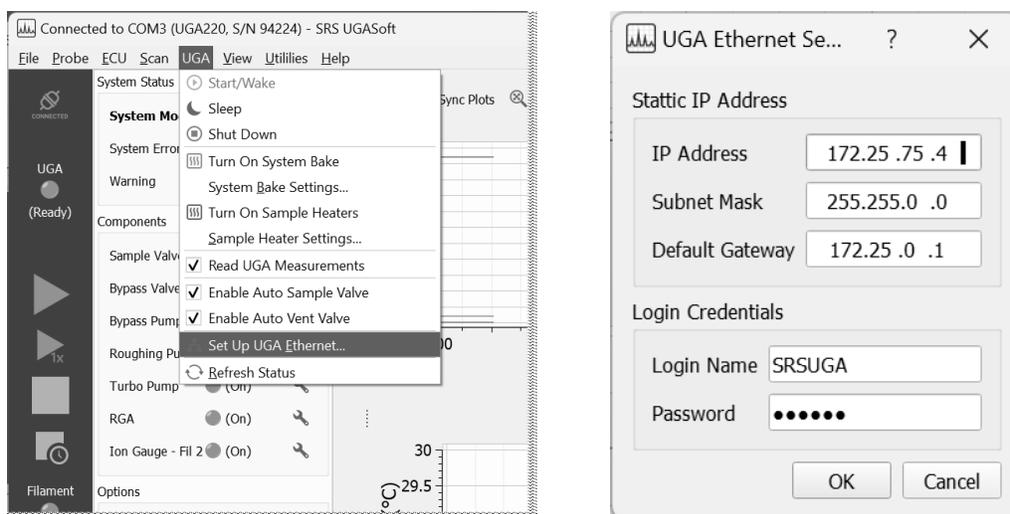

Fig. 2-6. Screenshots to open UGA Ethernet Setup dialog box.
- Select menu UGA > Set Up UGA Ethernet. *Note that the “Set Up UGA Ethernet” menu item is visible only when the serial port connection has been established* (See Fig. 2-6).